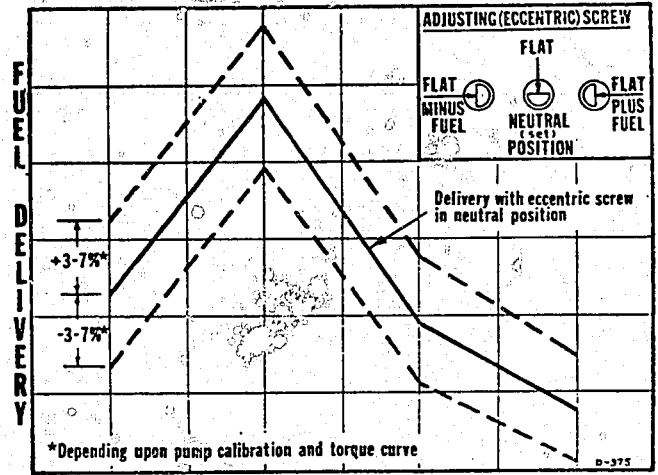

FIGURE 2
- 1.4 The eccentric screw provides a fuel delivery adjustment of $\pm 3 - 7\%$ (depending upon pump calibration and torque curve) from the screw's neutral (set) position (See Fig. 2).